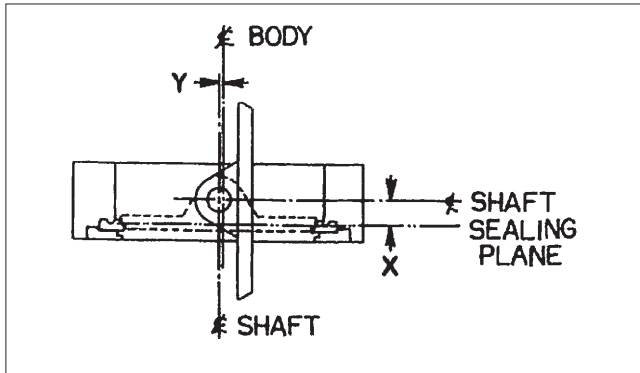
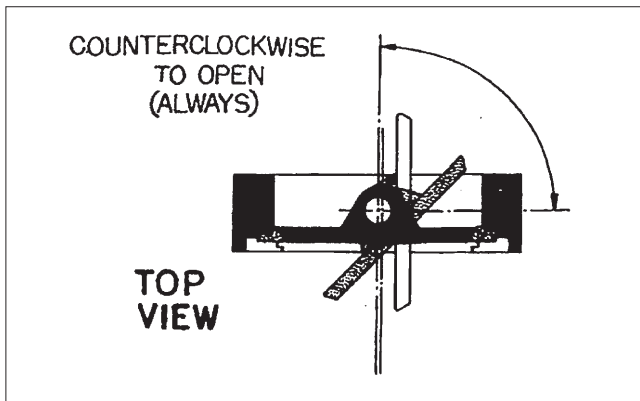

Figure 4.
Figure 6.
One of the design features of the *Wafer-Sphere* valve that is responsible for its superior performance is the valve's eccentric shaft design. The shaft is offset in two planes: (1) away from the valve disc centerline; and (2) behind the disc sealing plane (See **Fig. 4**). Offset shaft design makes the rotating disc cam back and away from the seat, completely eliminating the usual wear points at the top and bottom of the seat. Because the disc rotates off the seat in an eccentric arc, it operates in one quadrant only (See **Fig. 6**).
2. **IMPORTANT:** Only operating handle stops or actuator stop set screws must be used to stop the disc in position. **DO NOT** use the "positive stop" insert (2) by itself to limit actuator travel.
4. Before installing the closed valve in the line, be sure that the handle or actuator is attached so that a counterclockwise rotation, viewed from above, opens the valve (See **Fig. 6**). Again, fully close the valve before installing it in the line.